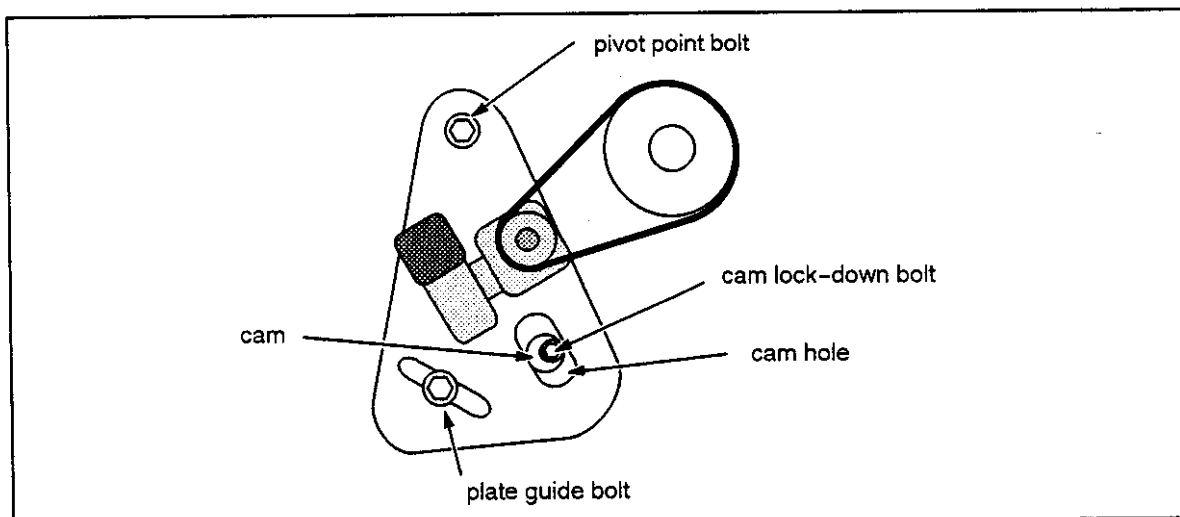

Figure 35. Azimuth Drive Belt Tension Plate.
- a. Loosen the three bolts on the azimuth drive belt tension plate (see Figure 35).